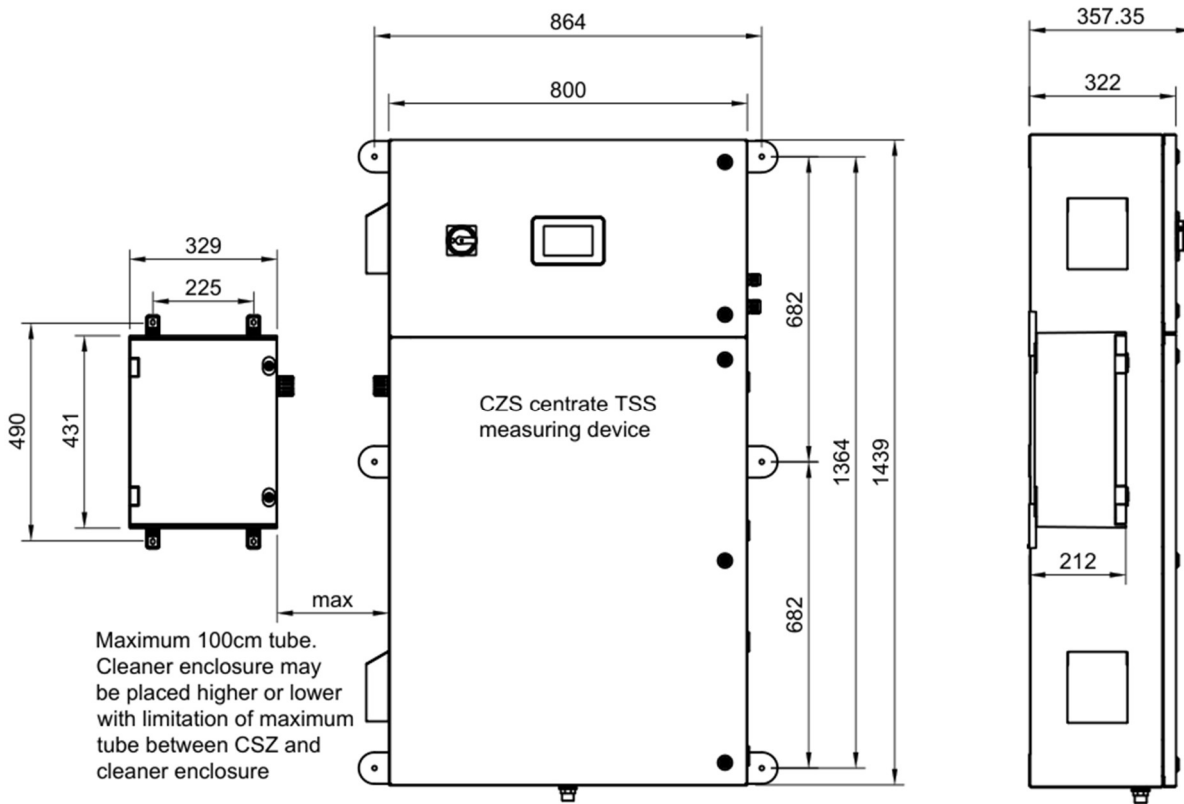

Fig. 3.2 — enclosure dimensions
- The vent outlet must be free of pressure and vacuum. See item 2 on figure 3.2
- Clean water supply must be adjustable/reducible with a pressure gauge; operating pressure 1.5 - 3 barg. See item 4 on figure 3.2